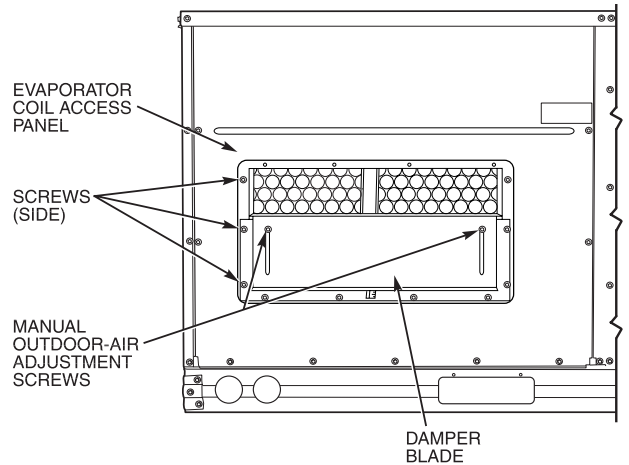
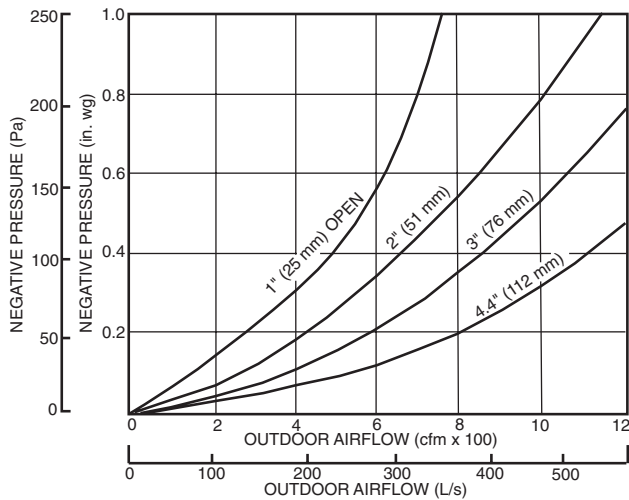

Fig. 13 — Damper Panel with Manual Outdoor-Air Damper Installed
Fig. 16 — Position Setting
2. Remove and save evaporator coil access panel and screws. See Fig. 13.
8. Adjust minimum position setting of the damper blade by adjusting the 2 manual outdoor-air adjustment screws on the front of the damper blade. See Fig. 13. Slide blade vertically until it is in the appropriate position determined by Fig. 16. Tighten screws.